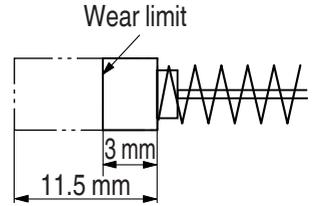

Fig. 7
4. Inspecting the carbon brushes (**Fig. 7**)